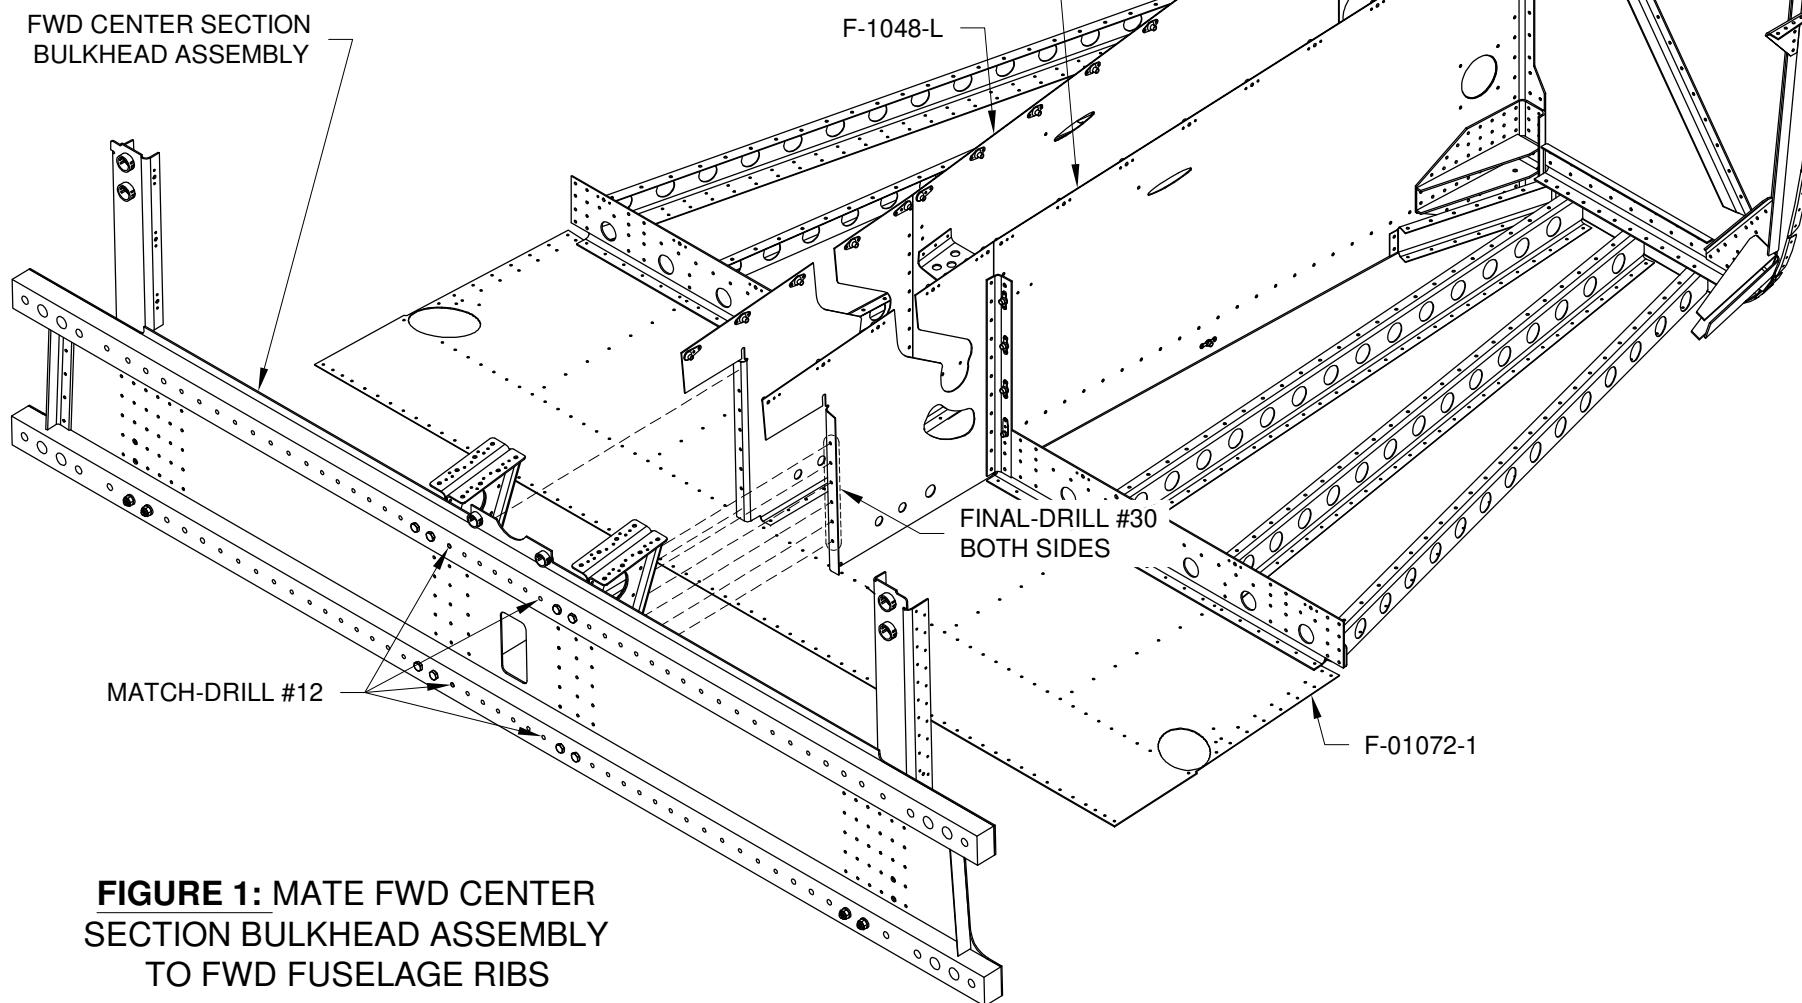

FIGURE 1: MATE FWD CENTER SECTION BULKHEAD ASSEMBLY TO FWD FUSELAGE RIBS
Match-Drill #12 through the Fwd Center Section Bulkhead Assembly into the aft flanges of the fwd fuselage ribs 4 places as shown in Figure 1.
Final-Drill #30 through the Fwd Center Section Bulkhead Assembly and fwd fuselage ribs 12 places as shown in Figure 1.
Step 1: Mate the Mid Fuselage Assembly to the Forward Fuselage Assembly as shown in Figure 1. The F-1076 Center Bottom Skin (part of the Mid Fuselage Assembly) fits BETWEEN the Fwd Center Section Bulkhead Assembly and the F-01072-1 Fwd Fuse Bottom Skin as shown in Figure 2.